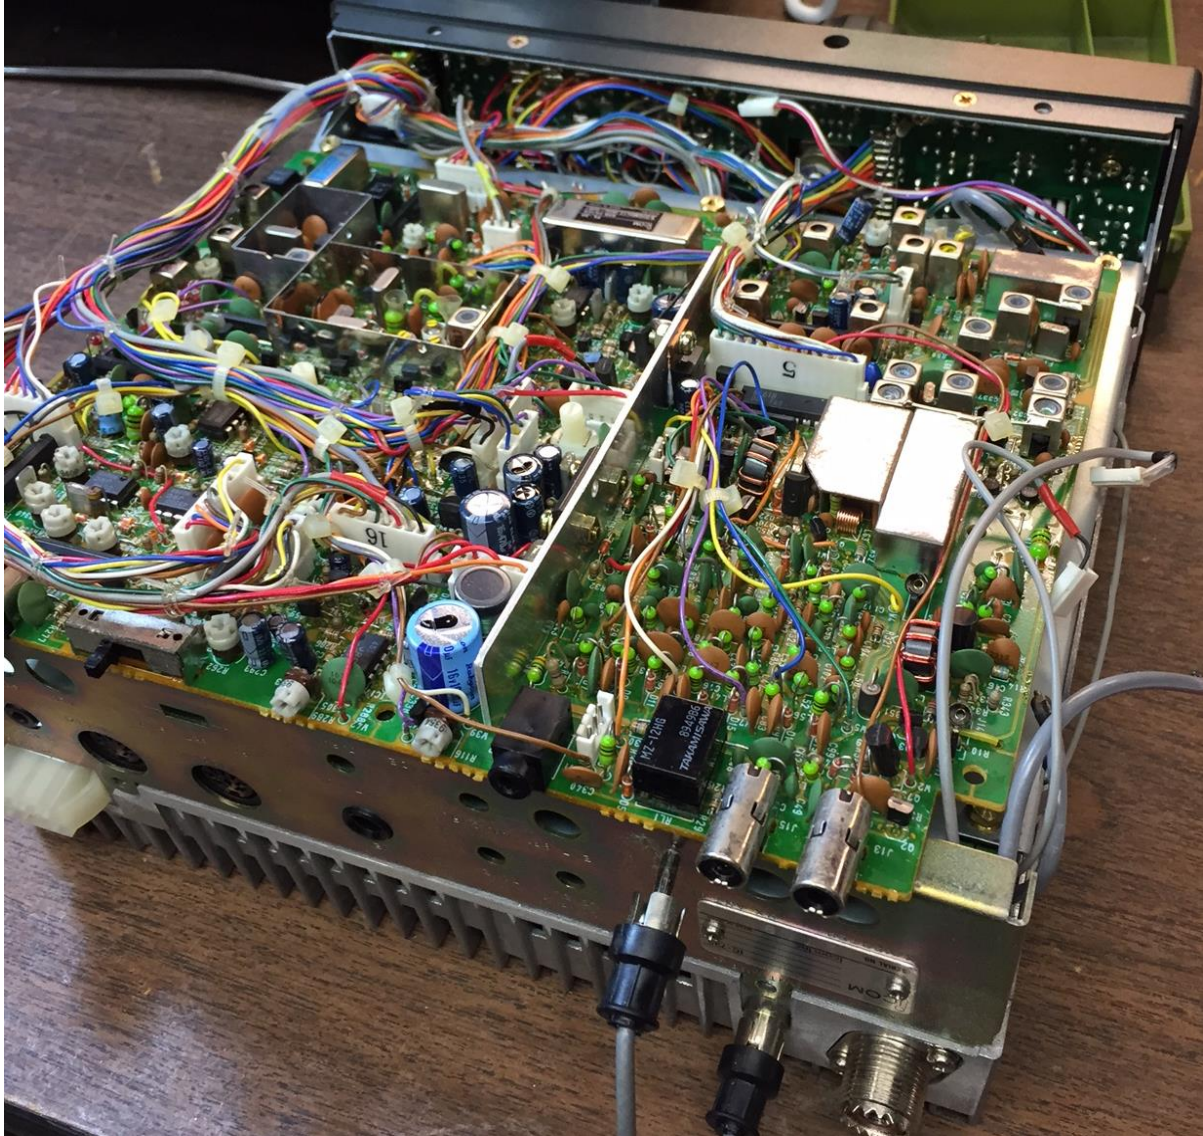

Figure 5. Bottom main board removed and two grey coax connectors and two grey 3-pin connectors disconnected.
3. Disconnect the two grey coax leads and the two grey, 3-pin connectors near the coax output connector (See Figure 5). With these wires disconnected, the board can be flipped over such that the capacitor can be unsoldered.